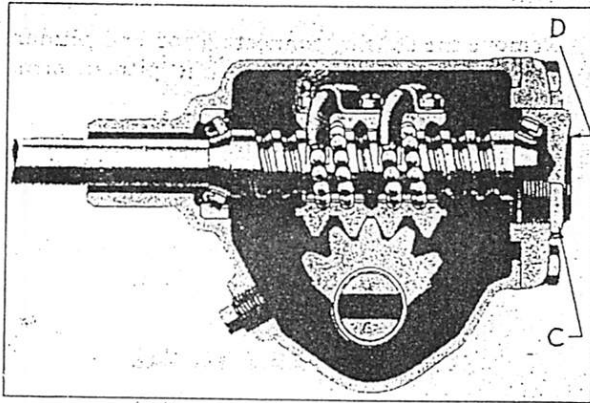

Fig. 19—Worm Bearing Adjustment Points
5. To adjust the worm bearings, loosen locknut "C," Fig. 19, and turn worm bearing thrust screw "D" until there is no noticeable end-
2. Loosen the lock nut "C," Fig. 19, on the worm bearing thrust screw "D" and turn the thrust screw counterclockwise a few turns.